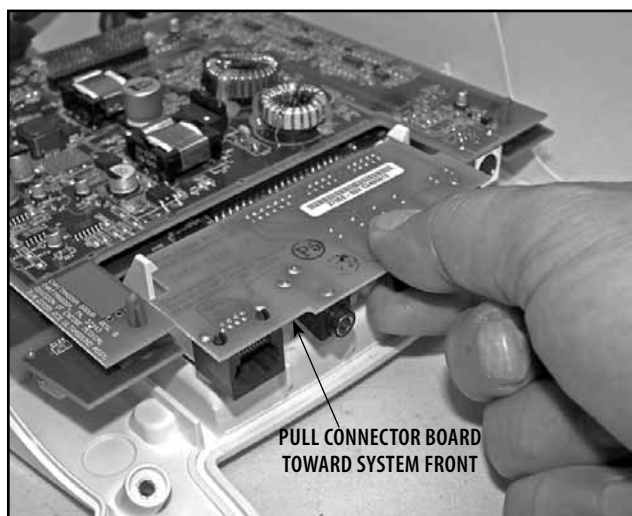

FIGURE 6.35
3. Carefully pull Connector Board out toward front of System. See Figure 6.35.